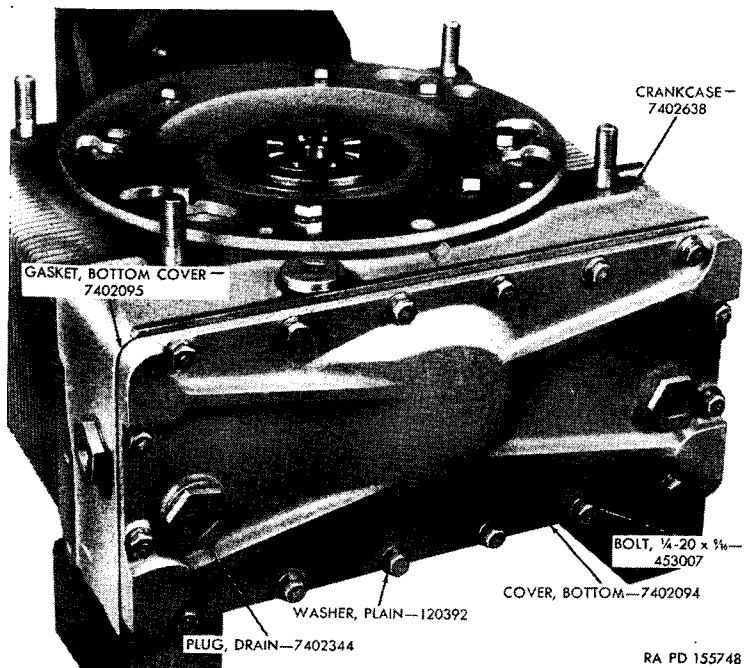

Figure 38. Crankcase bottom cover.
a. Remove sixteen $\frac{1}{4}$ -20 x $\frac{5}{16}$ bolts, washers, and plain washers retaining crankcase bottom cover to crankcase (figs. 38 and 39). Remove bottom cover and bottom cover gasket.